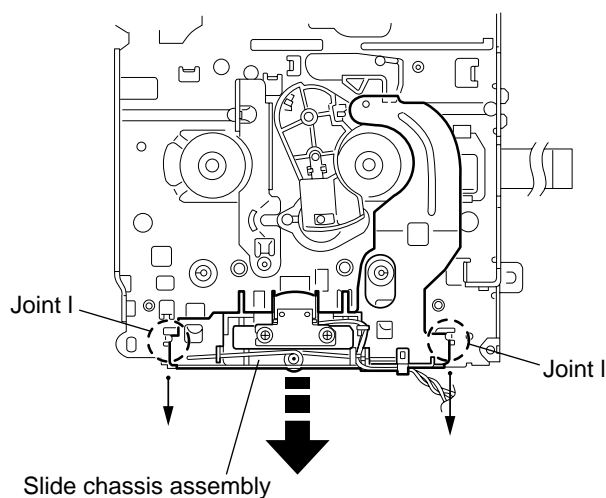

Fig.14
■ Removing the slide chassis assembly (See Fig.14 and 15)